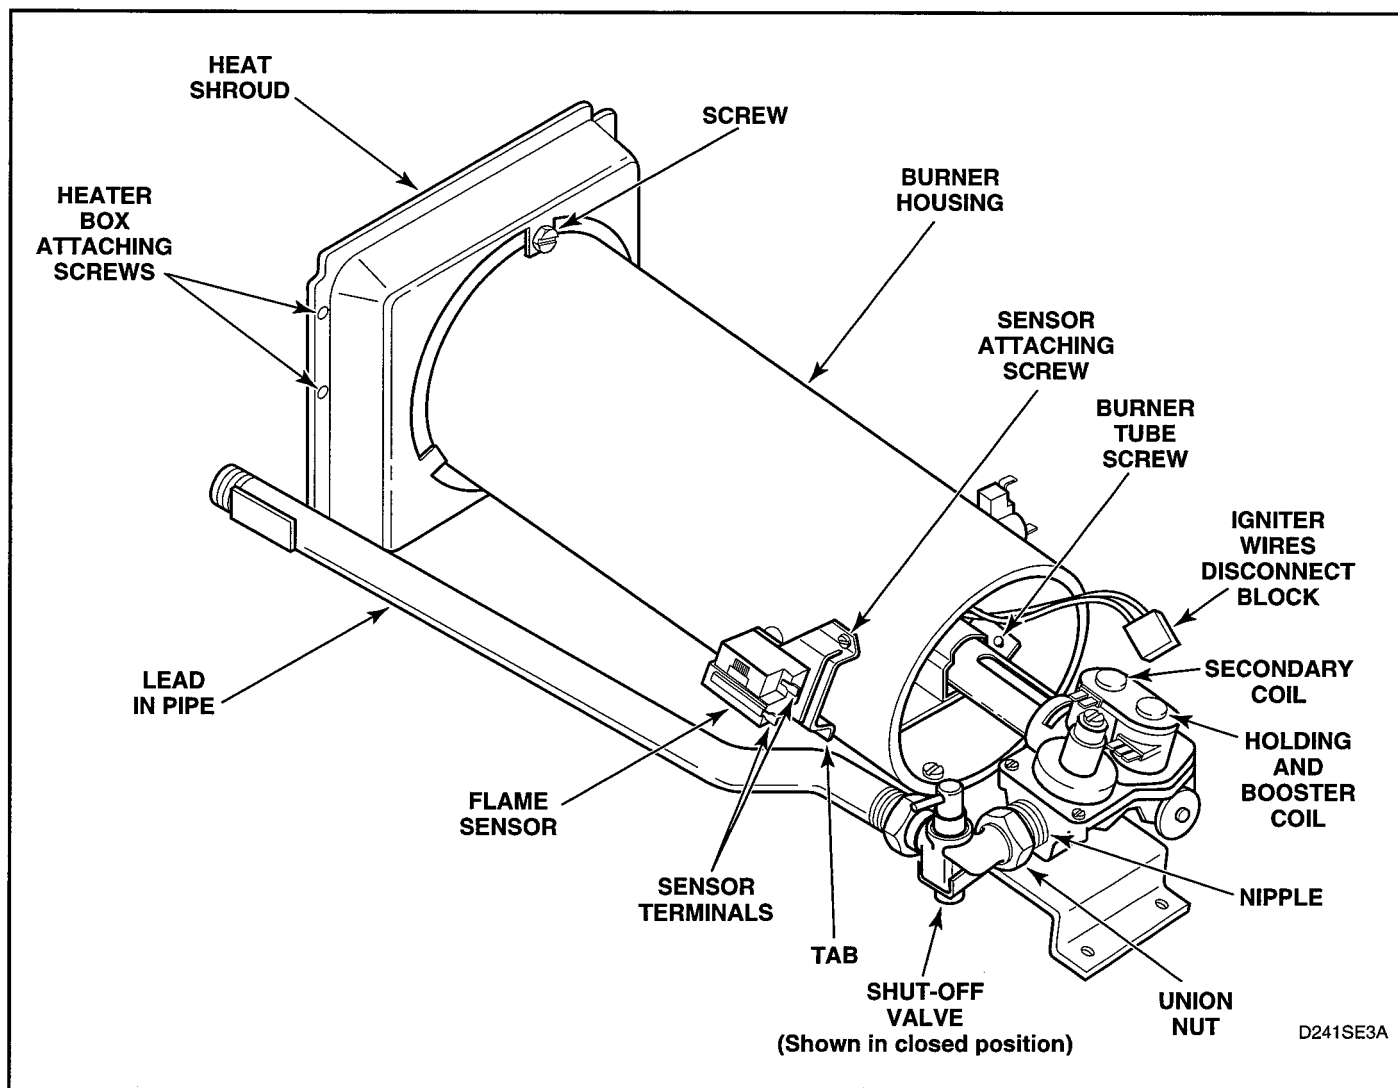

Figure 5-11
3. Close main gas shut-off valve, disconnect igniter wires at disconnect blocks, sensor wires from flame sensor terminals, and wires from gas valve coils at the quick disconnect blocks. See figure 5-11.
4. Disconnect gas shut-off valve from gas valve at the union nut. See figure 5-11.
5. Remove three screws holding valve and mounting bracket to base. See figure 5-11.
6. Lift gas valve and mounting bracket from base. See figure 5-11.
2. Gently move burner tube toward rear of dryer to disengage tab from slot on left side of burner housing. See figure 5-11.
3. Remove wires from sensor terminals. See figure 5-11.
4. Remove screw holding sensor to burner housing. See figure 5-11.
- Disconnect igniter wires at disconnect blocks, sensor wires from flame sensor terminals, and wires from gas valve coils at the quick disconnect blocks. See figure 5-11.
- Gently move burner tube toward rear of dryer to disengage tab from slot on left side of burner housing. See figure 5-11.
- Remove screw holding burner housing to heat shroud. See figure 5-11.